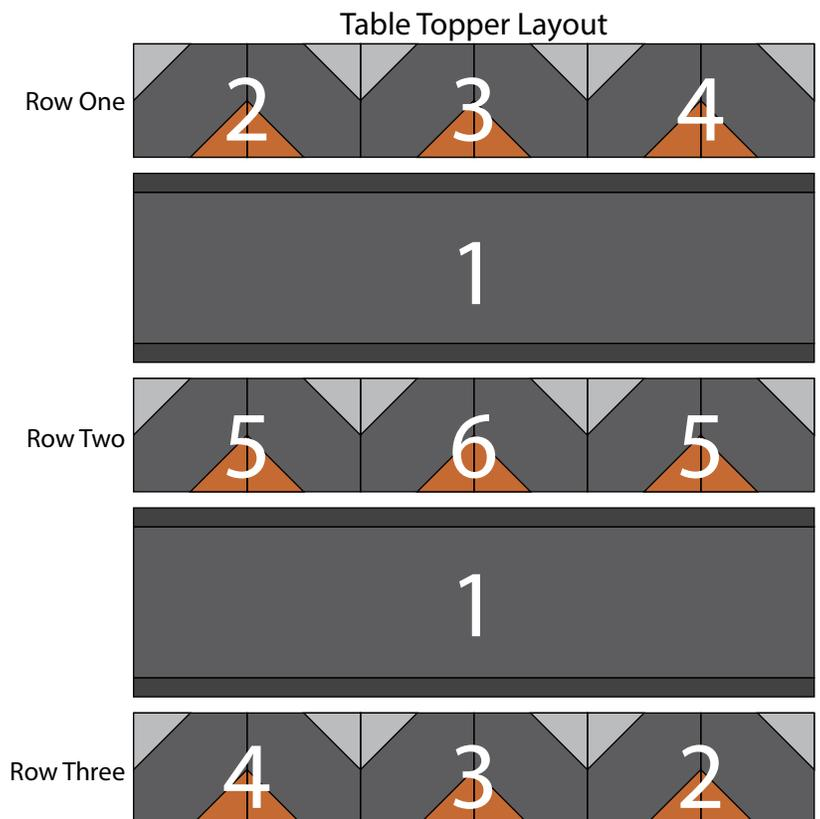

Fig. 18
8. Sew (1) Block Two rectangle, (1) Block Three rectangle and (1) Block Four rectangle together end to end and in that order from left to right to make Row One.
9. Sew (1) Block Five rectangle, (1) Block Six rectangle and (1) Block Five rectangle together end to end and in that order from left to right to make Row Two.
10. Sew (1) Block Four rectangle, (1) Block Three rectangle and (1) Block Two rectangle together end to end and in that order from left to right to make Row Three.
11. Sew the (3) Pieced Rows from Steps 8-10, in numerical order and the (2) Block One strips together lengthwise, alternating them from the top to the bottom, to make the Topper top (Fig. 18).